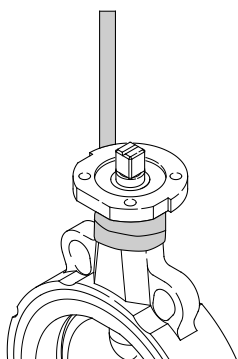
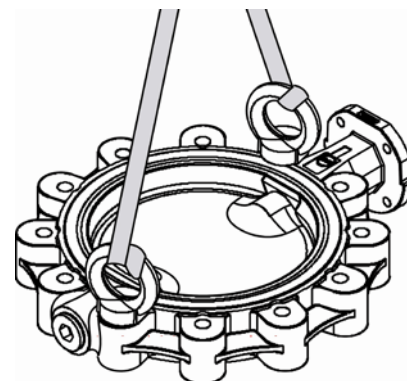

Fig1
Fig 3
- Attach lifting straps as in fig 1 to fig 3.